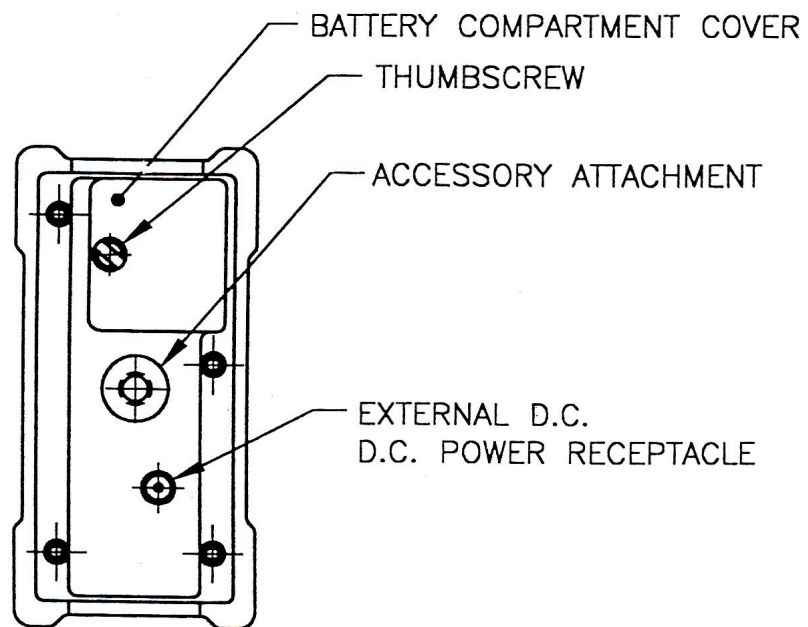

Figure 3 – BOTTOM BASE (MODEL pDR-1000AN)
- Tripod mounted. The unit can be attached to any standard tripod using the threaded bushing on the bottom of the monitor (see Figure 3).
Refer to Figures 3 (for model *pDR-1000AN*) or 4 (for model *pDR-1200*). The base of the *personalDataRAM* contains the following: a) internal battery compartment cover, b) external DC power input receptacle, and c) threaded bushing for the attachment of optional battery pack, tripod, or other mounting/support hardware.
- Loosen thumbscrew that secures the battery compartment cover (see Figure 3 or 4), and remove that cover.
A universal line voltage AC to DC power supply (Thermo Electron model *pDR-AC*) is provided as standard accessory with the *personalDataRAM*. This power supply can be used with any line with a voltage between 100 and 240 VAC (50 to 60 Hz). When using that power supply, its output plug should be inserted into the external DC receptacle at the base of the *personalDataRAM* (see Figure 3 or 4). Insertion of that connector automatically disables the internal 9V battery of the instrument. Removal of the *pDR-AC* plug from the instrument automatically re-connects the internal 9V battery.